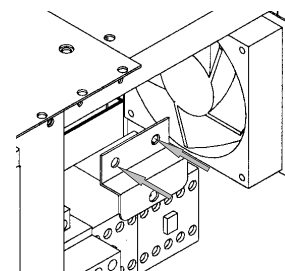

Figure 2
3. Remove the 2 front top side panel support brackets, 2 screws each (Fig 2).
1. Replace side cover support brackets (Figure 2) at top front of bottom unit and bottom front of top unit, using original screws.